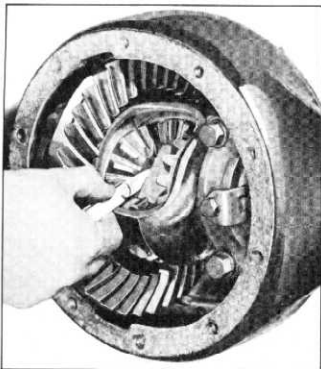

Fig. 5—Clearance Between Axle Shaft and Spacer
9. Select axle shaft spacer to give free fit to .014" maximum clearance between ends of axle shaft and the spacer (fig. 5).